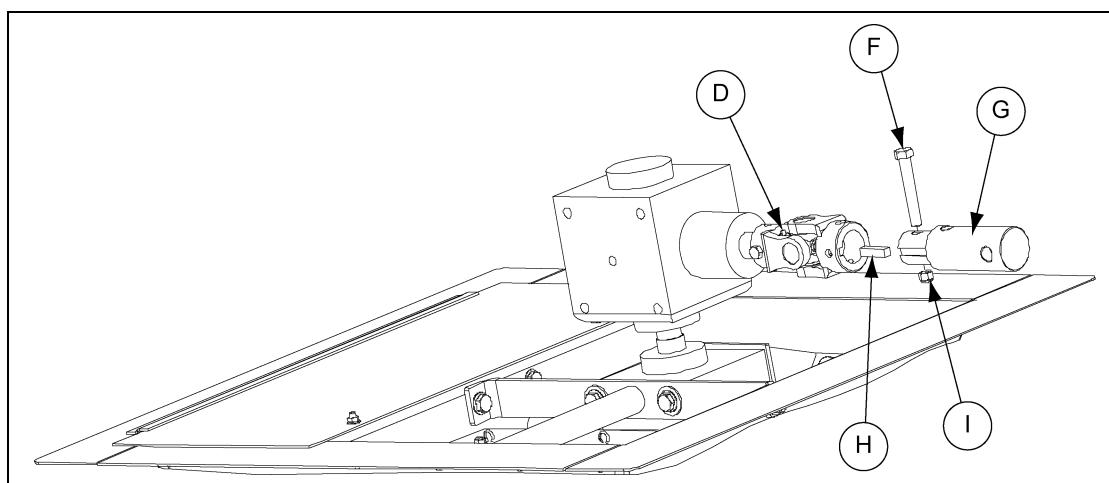

Figure 4AG
2. Attach the U-joint flight shaft (G) to the U-joint (D) using a 3/8" x 1-1/2" square key (H) and a 1/2" x 3-1/4" hex bolt (F) and stover nut (I). Tighten both set screws after installation of keys. (See Figure 4AG.)